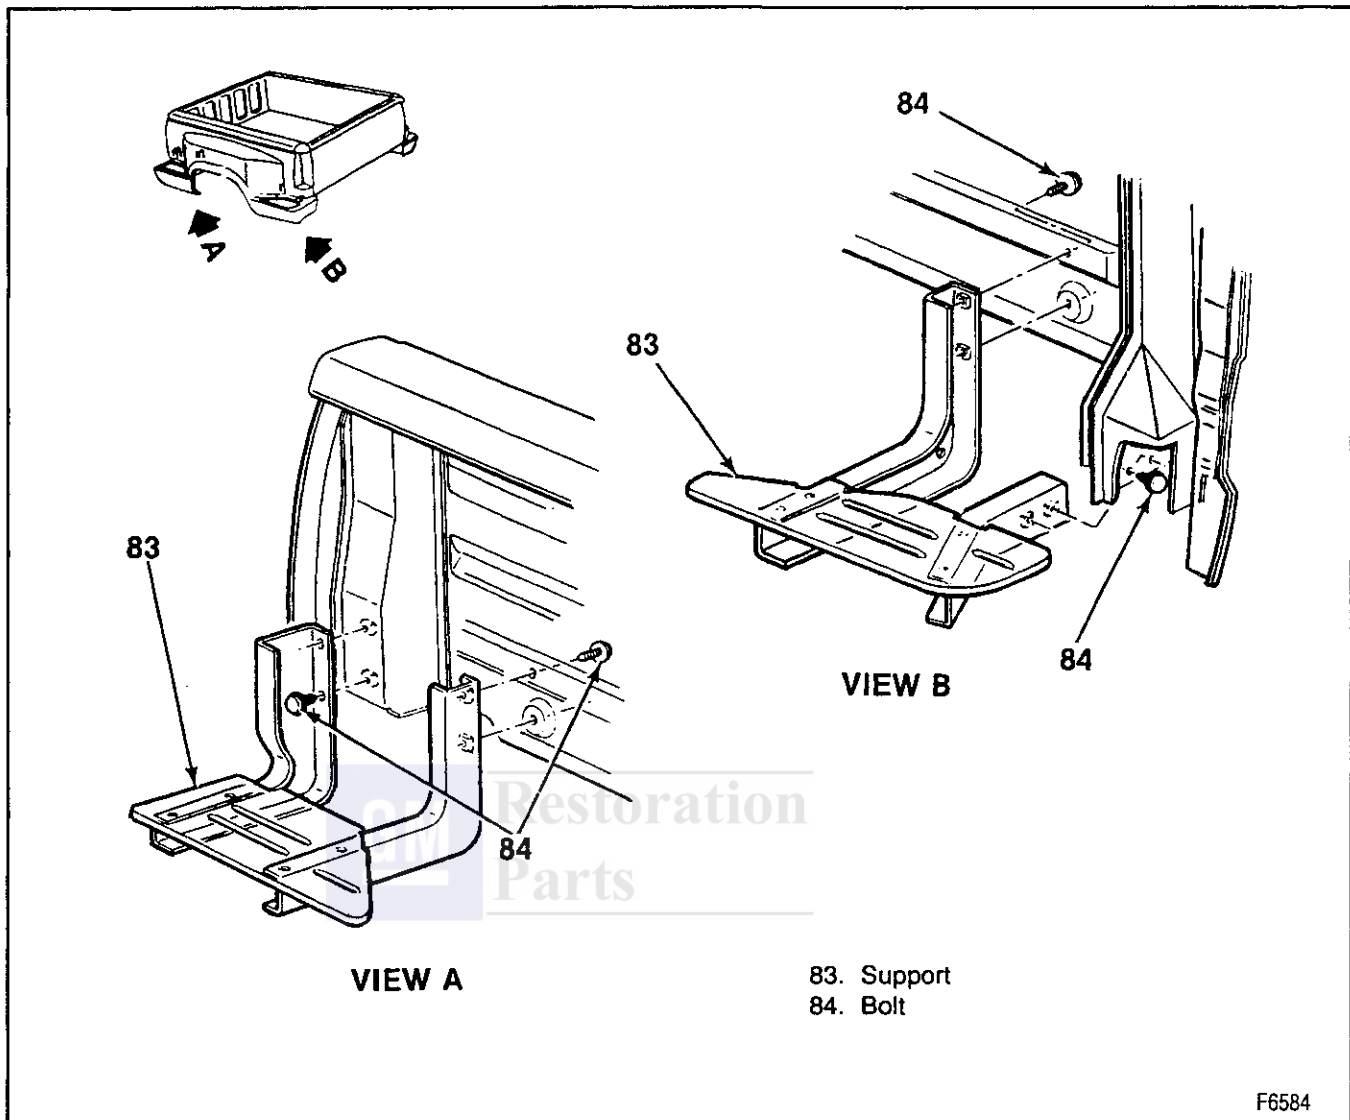

Figure 14—Fender Supports
9. Fender supports and bolts (figure 14).